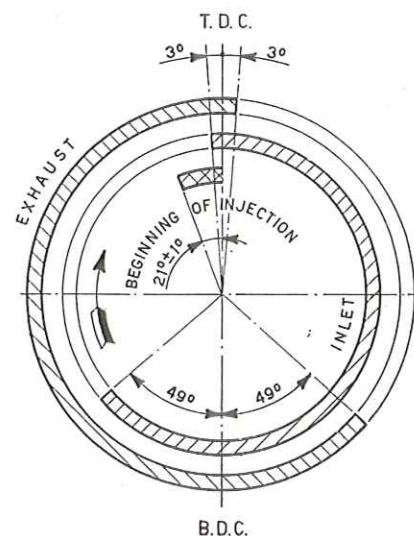

Fig. 14. - Engine timing diagram.
- rotate the crankshaft back and forth a few degrees to make sure that cylinder no. 1 is ending compression, at which point the intake and exhaust valves of cylinder No. 4 will start opening and closing symmetrically at  $3^\circ$  from T.D.C. (fig. 14), respectively, equal to a linear distance of 0.371 in. (9,42 mm) measured on the flywheel rim surface;